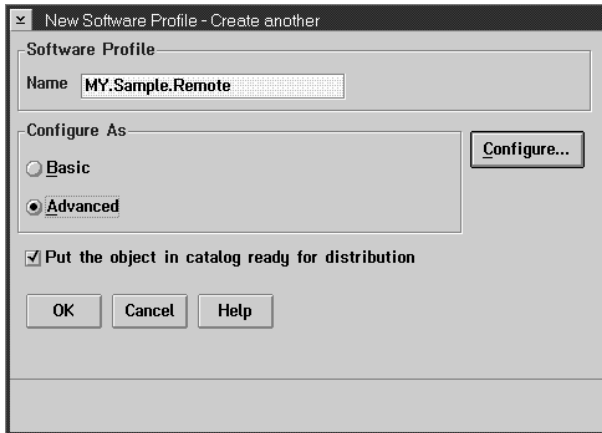

Figure 78. New software profile window
- The New Software Profile window is displayed, as shown in Figure 78.